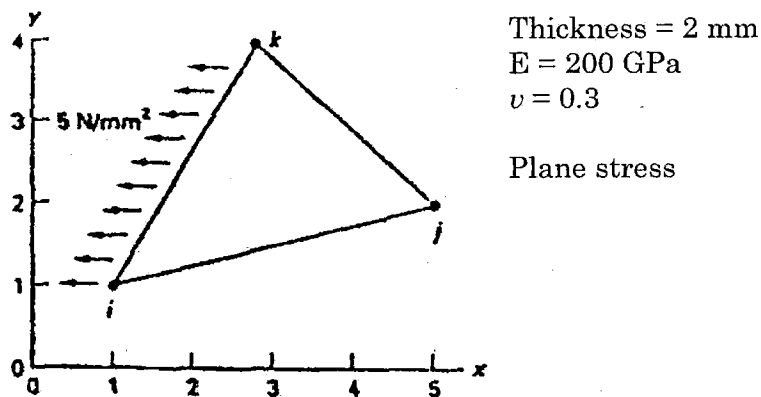

Fig. 3
13. (a) Compute the finite element equation for the LST element shown in Fig.3. (16)